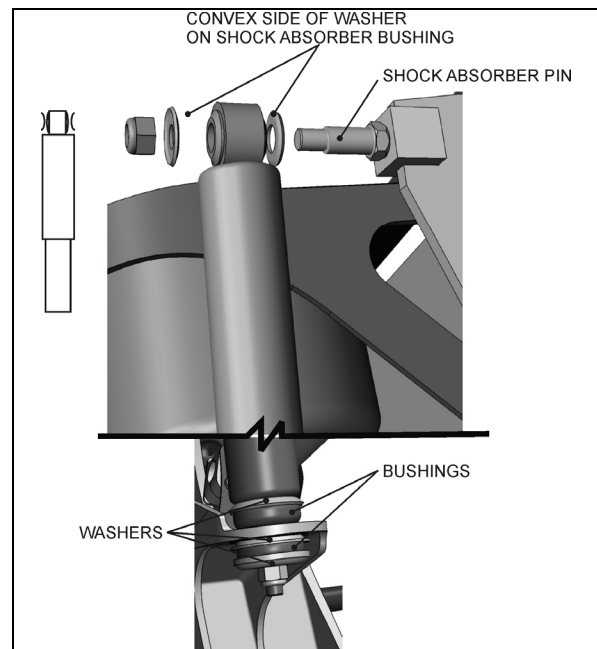

FIGURE 4: SHOCK ABSORBER
1. Remove nuts and washers from shock absorbers on upper and lower mounting pins, taking care to identify the inner and outer washers to ease reinstallation. Refer to figure 4 for details.